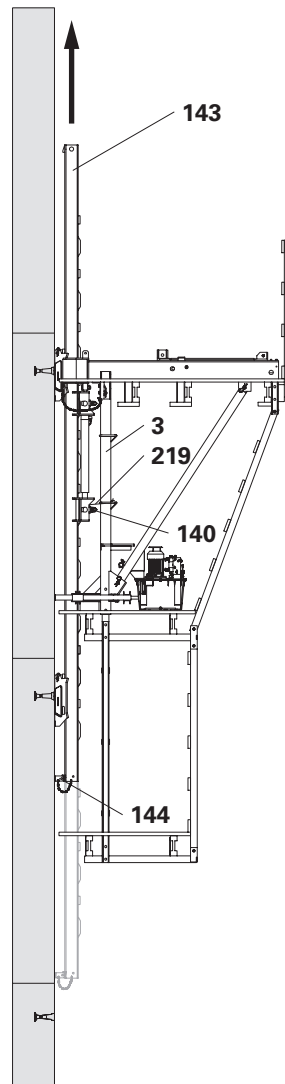

Fig. E2.01
1. Set all climbing devices (140) to the "Neutral" position.
2. Fix all climbing devices (140) to the vertical strut (3) with binding wire (219).
3. Remove the spacer (144).
4. Attach the climbing rail (143) to the crane and pull it upwards and out. (Fig. E2.01)